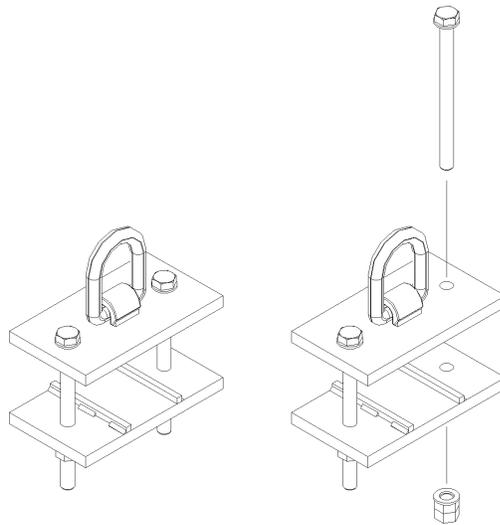

Fig. A1.01
1. Remove SLC 19mm Bolt, SLC 19mm Washers, & SLC 19mm Hex Nuts from one side of Lifting Clamp. (Fig. A1.01)